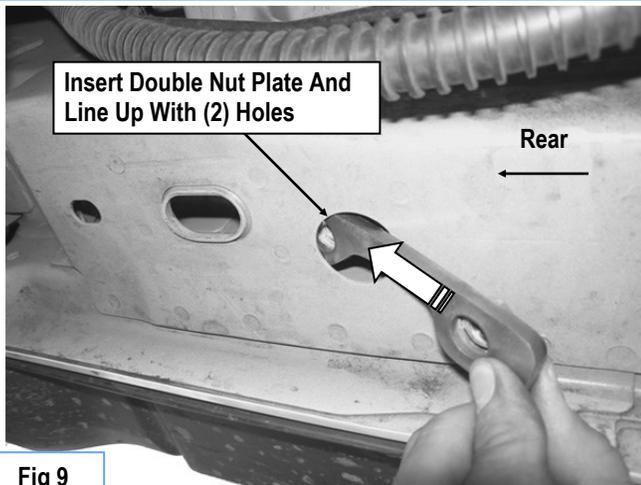

Fig 9
Insert (1) M10X1.5 Double Nut Plate through the large round hole and line up the threaded nuts on the M10X1.5 Double Nut Plate with the smaller round and oval holes, (**Fig 9**).